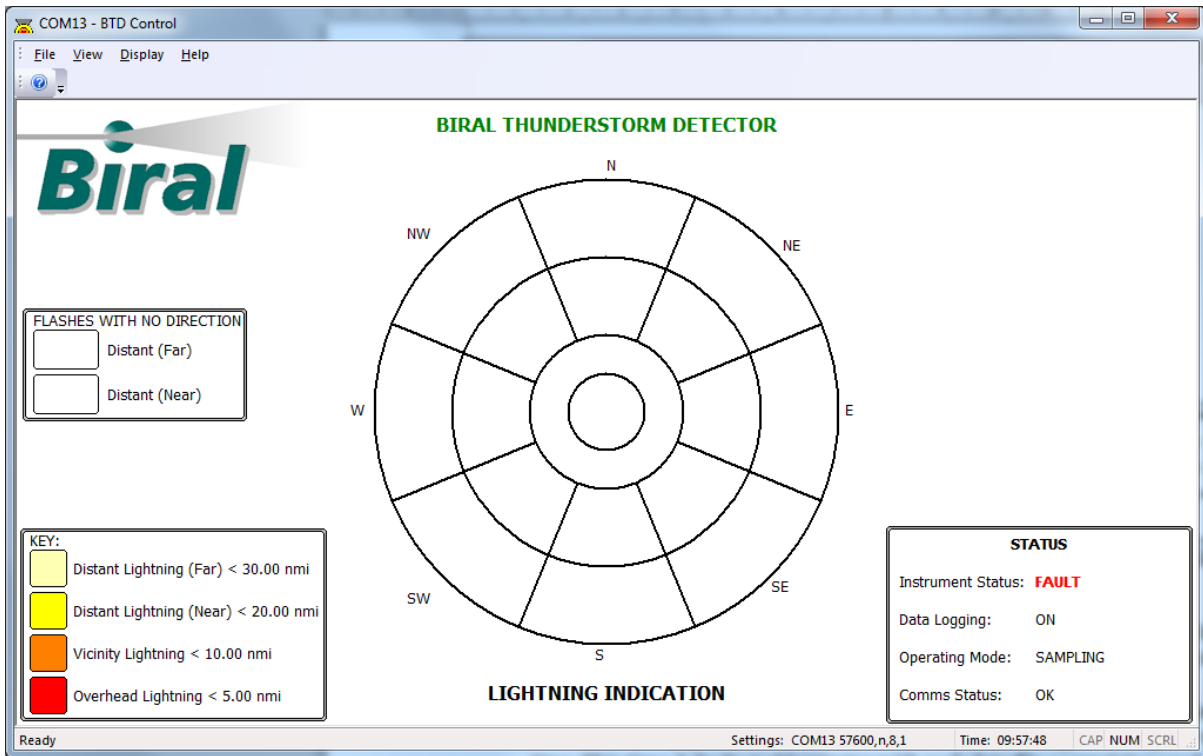

Figure 5-13: Overhead Warning hidden
- View Overhead Warning Box – This checkbox hides or displays the warning of Potential Thunderstorm Activity Overhead display. A tick in the box indicates that the Warning box is displayed. Figure 5-13 below shows the display when the warning box is hidden.